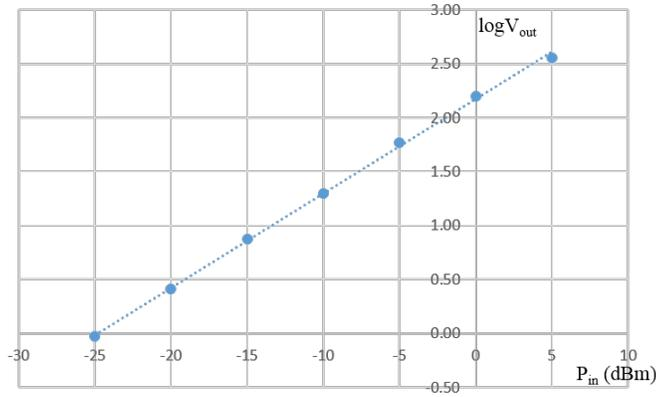

Figure 4: An example of best line-fit data to show “square-law” region
- From your curve of RF power into the detector vs. DC voltage out of the detector, determine the “square-law” range of your detector (it is recommended that you would perform a best-line-fitting on the data to show its linearity)¹. Figure 4 shows an example. What is the measured slope of the detector in the square-law region? How does the measured curve compared with what you would expect from a detector (discuss about different ranges of the input power: too low, too high, neither low nor high power regions)? How is it compared to the datasheet [1]?
1. Write down the slope and the intersect to help you plot the “square-law” region of the 8474B detector, similar to Figure 4. Why is it important to determine the “square-law” region for the detector?